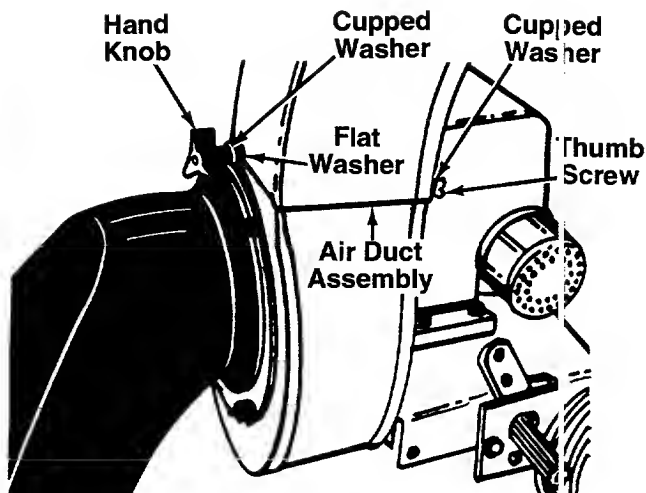

FIGURE 6.
← figure 6.
1. Remove the bag. Remove the air duct assembly by removing the hand knob, cupped washer and flat washer from the front of the air duct assembly, and the thumb screw and cupped washer from behind the air duct assembly. Refer to figure 6.